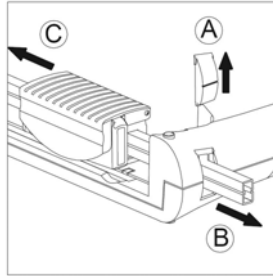

Fig. 8
- 1 Remove the end cap from the base plate (Fig. 8, A).
- 2 Remove the guide rail from the base plate (Fig. 8, B).
- 3 Replace the old cutting head with a new one (Fig. 8, C)